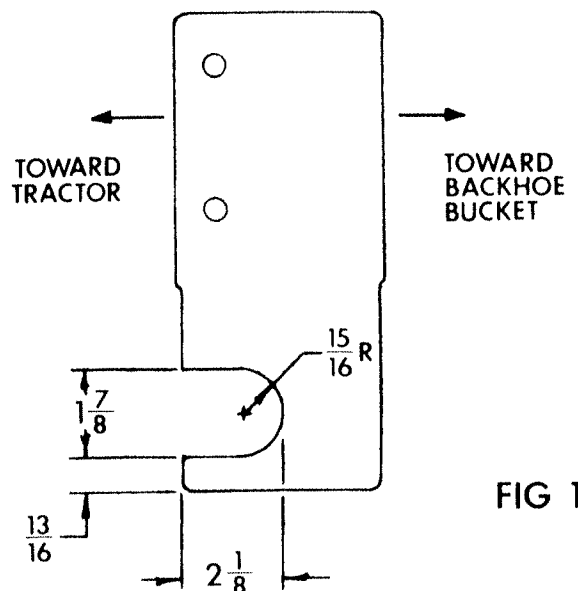

FIG 1
1. Remove shroud from backhoe (refer to the Valve Mount, Controls, and Seat section in your backhoe manual). Notch right side of shroud as shown in Fig 1 to provide an opening for the power beyond parts.